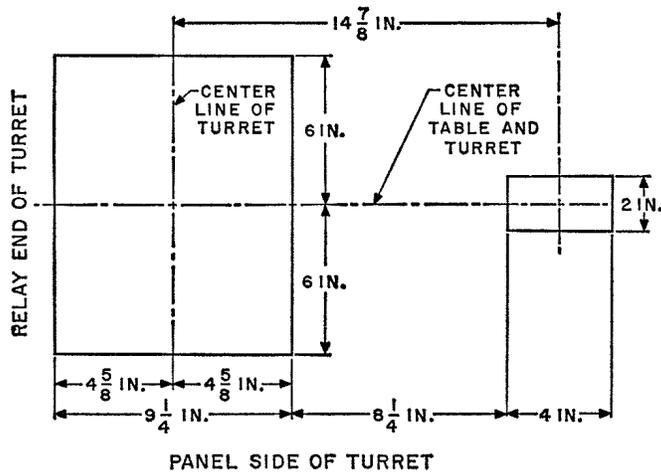

Fig. 2 - Table Layout
5.01 A suitable table with two cutouts of the dimensions shown in Fig. 2 should be provided by the customer for supporting the turret.
5.02 Locate turret over openings with center lines of turret in position as shown in Fig. 2 and fasten turret securely to table.